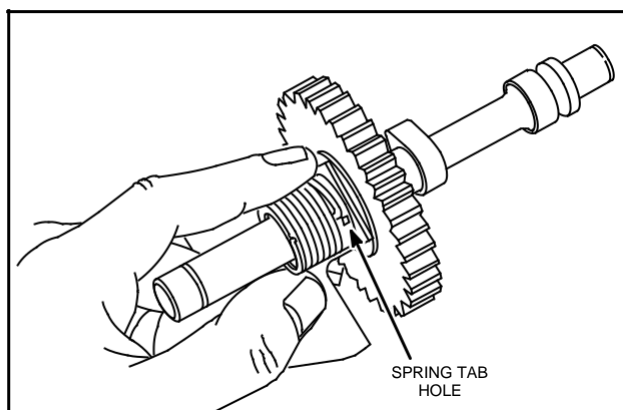

Fig. 161 - ASSEMBLE CLUTCH SPRING
1. Assemble clutch spring as shown in Fig. 161.